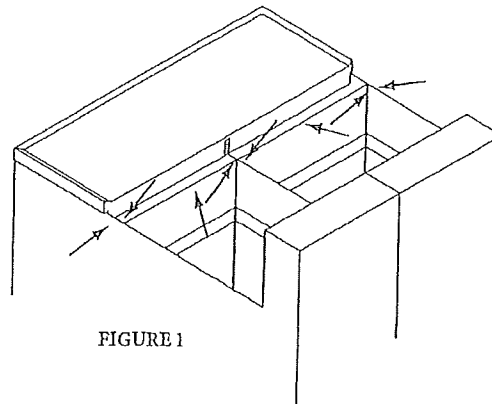

FIGURE 1
- 3) CAREFULLY position the drain trough beneath the fryer; then SECURE the drain trough to each 2" (5mm) ball valve plate using four (4) ¼ - 20 hex head bolts and nuts previously removed.
- e) After the apron has been secured to each fryer cabinet apply a small bead of multipurpose sealant to the areas as shown in Figure 1 below.